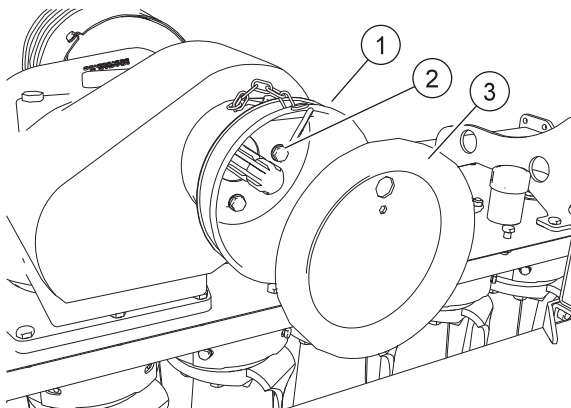

FIG. 13
- Put the guard into place (1, “Fig. 13”). Loosen the screws (2). Fit the cap (3).